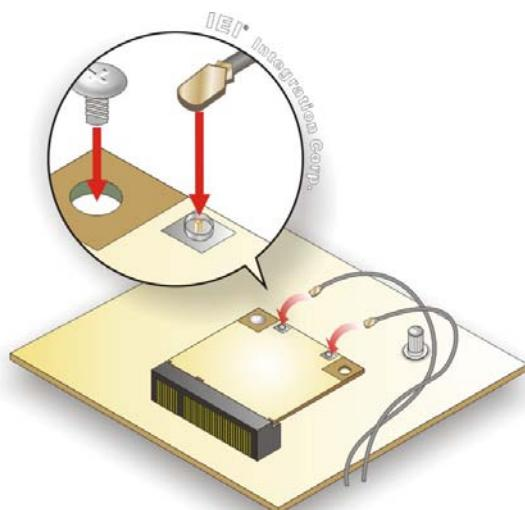

Figure 3-8: Securing WLAN Module and Connecting RF Cables
Step 6: Secure the WLAN module. Secure the WLAN module with the retention screw previously removed (**Figure 3-8**).
Step 7: Connect the two RF cables to the antenna connectors on the WLAN module (**Figure 3-8**).